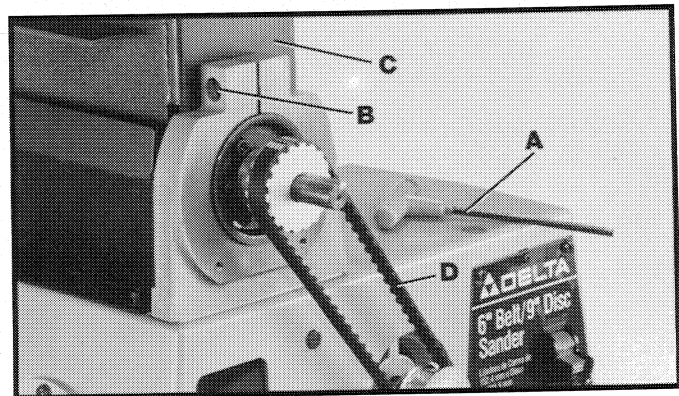
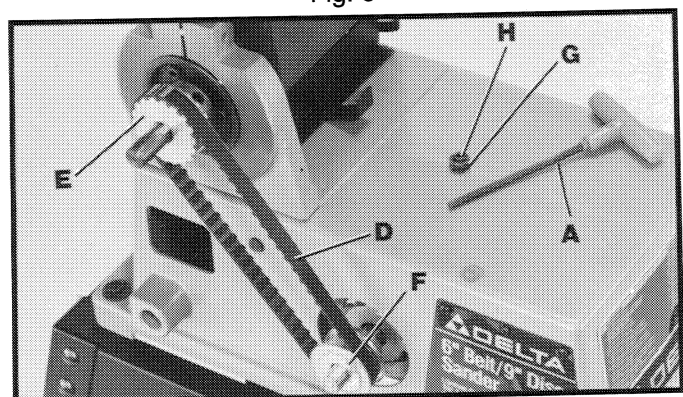

Fig. 6
Fig. 7
1. With hex wrench (A) Fig. 6 supplied, loosen screw (B) and move sanding arm (C) to the vertical position; tighten screw (B) as shown. Assemble drive belt (D) to pulleys.
2. **NOTE: The drive belt (D) Fig. 6, should be firm but not too tight on the pulleys. The drive belt (D) does not require excessive tension to function properly.** The drive belt (D) Fig. 7, is tensioned properly by applying light finger pressure at the center span of the pulleys (E) and (F). To adjust belt tension, loosen locknut (G) Fig. 7. Using wrench (A) tighten or loosen adjustment screw (H) until correct belt tension is obtained. Then tighten locknut (G).
3. After drive belt (D) Fig. 7, is tensioned properly, move the sanding arm to the horizontal position.